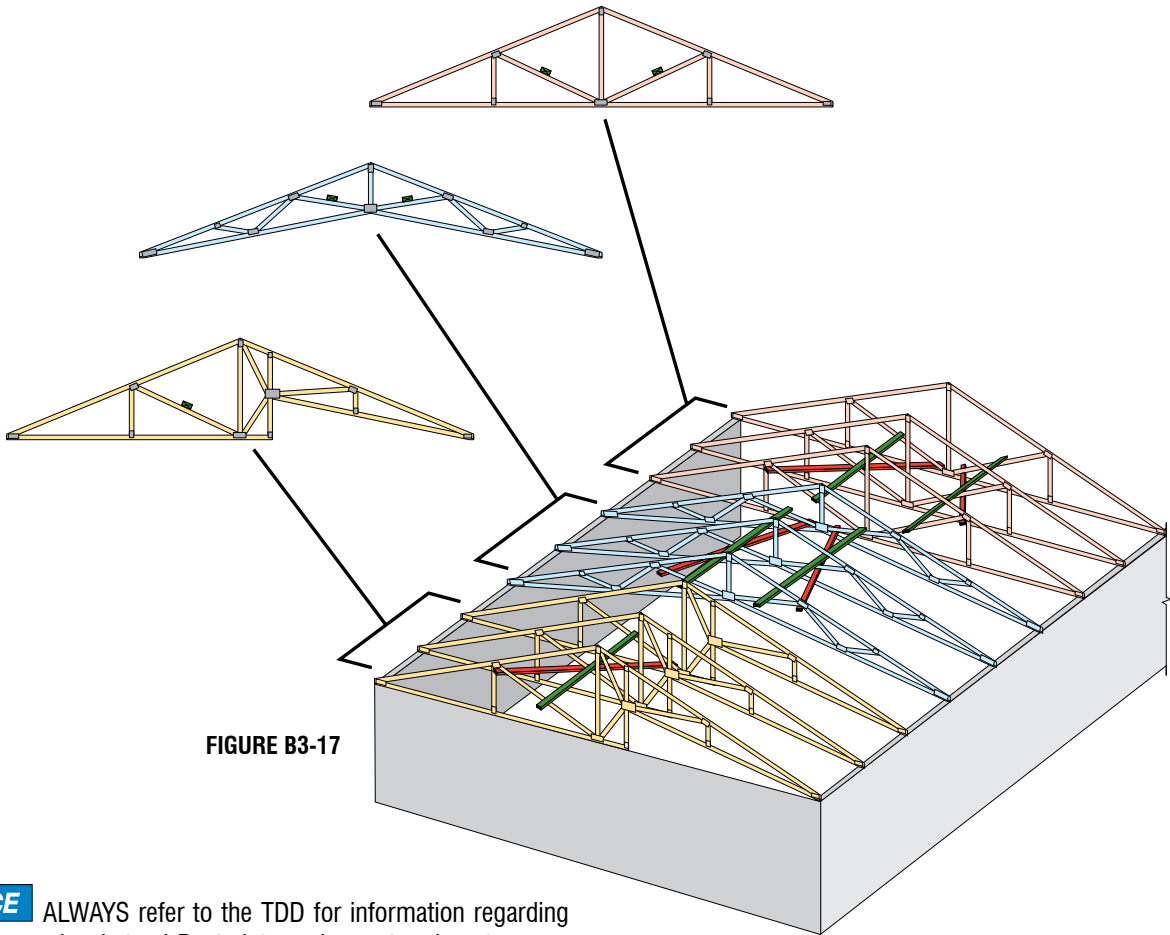

FIGURE B3-17
- Diagonal Bracing combined with Lateral Restraint can also be used with small groups of Trusses. Figure B3-17, page 43, provides an example of a Building containing nine Trusses with three different configurations. Each Truss configuration contains web members that require Lateral Restraint, and these web members are in different locations for each configuration. To ensure the webs of these Trusses are properly braced, install Lateral Restraints (shown in green) and Diagonal Bracing (shown in red) within each group of Trusses. Extend the Diagonal Bracing from the Top Chord to the Bottom Chord of the adjacent Trusses. Attach the Diagonal Bracing to the Web of the middle Truss near the location of the CLR and to each intersecting Truss. This provides the rigidity that prevents the Webs and the CLR from displacing laterally.